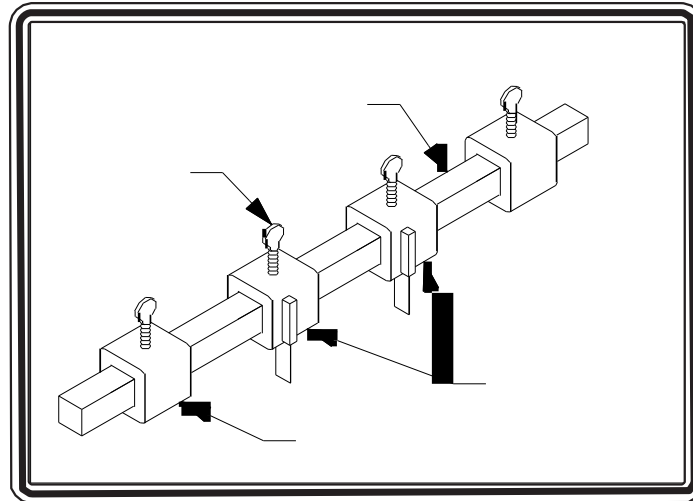

FIGURE 2
3) Take the slitter bar and slide on one locking block, both slitters, and then the other locking block. Be sure the thumb screws are all on top, and both slitter edges are facing the front of the laminator. **(See Figure 2)** Adjust slitters to cut where you wish and tighten the thumb screws. Remove protective coating from slitter blades.